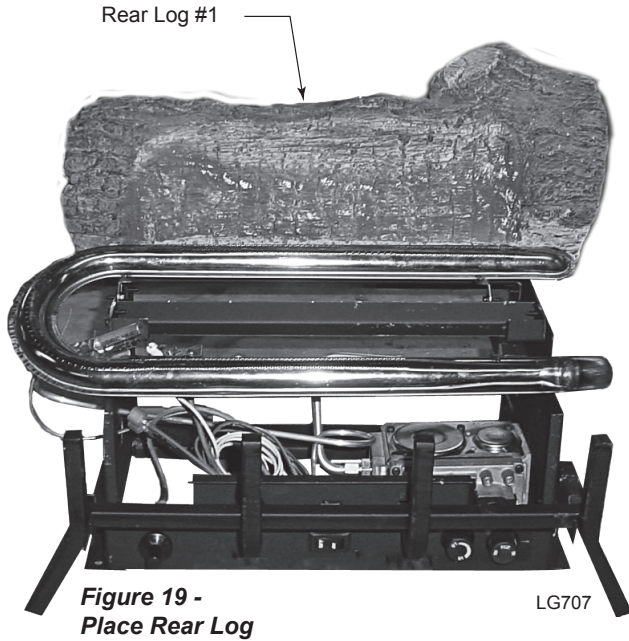

Figure 19 - Place Rear Log
1. Place Rear Log (#1) on rear support. *Figure 19*